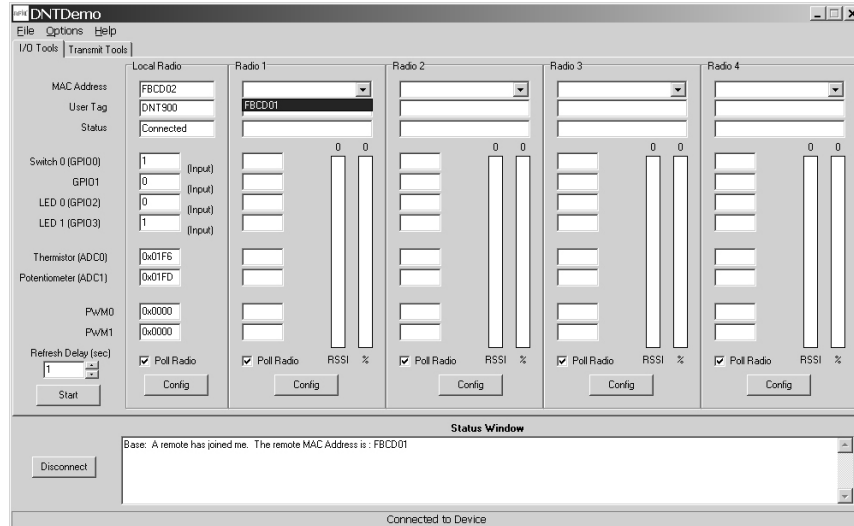

Figure 7
- At this point the Demo will collect data from the Base, filling in data in the *Local Radio* column on the Demo window as shown in Figure 7. The *Status Window* should also show that the Remote has joined the Base. Click on the drop down box at the top of the *Radio 1* column and select the *MAC Address* for the Remote. Next press the *Start* button using the default 1 s *Refresh Delay*.